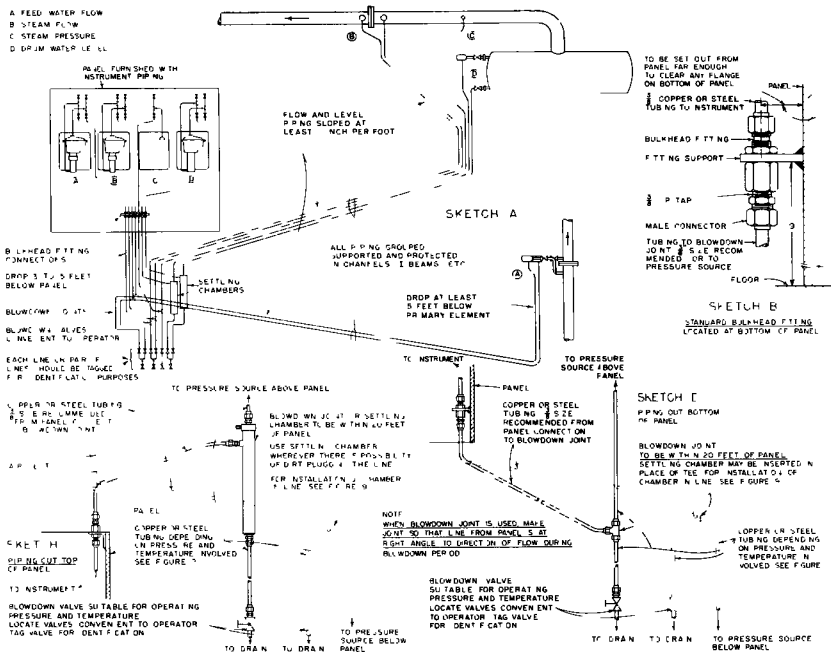
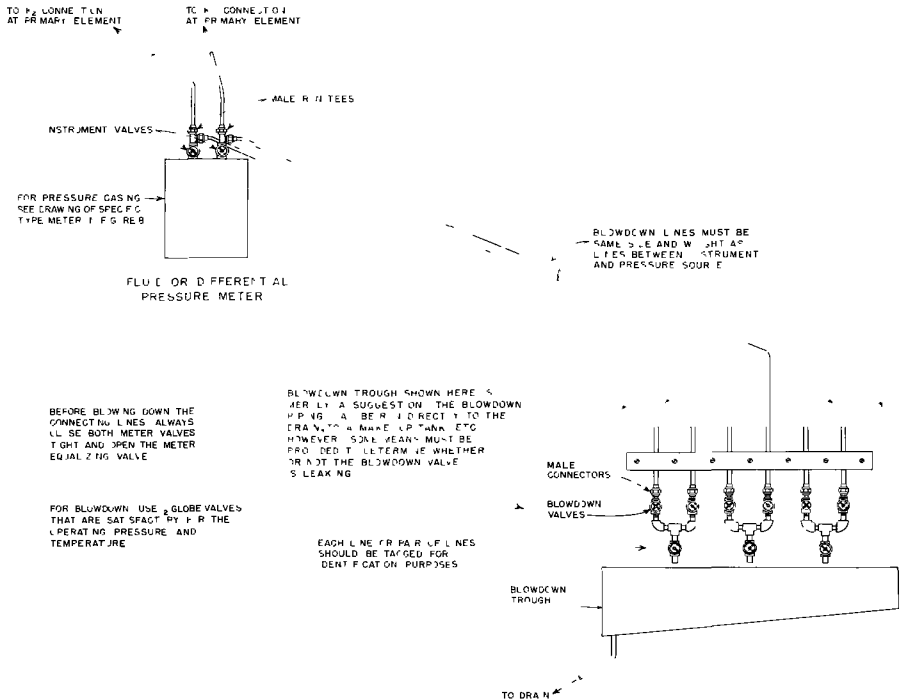

FIGURE 13 Typical Bailey Instrument Panel Arrangements
FIGURE 14 - Suggested Arrangement for Instrument Connection Line Blowdown Piping
A typical Bailey Instrument Panel piping installation is shown schematically in Figure 13 Sketch A. The panel piping uses bulkhead type fittings with 3/8 inch NPT outlets (see Figure 13, Sketch B) for connecting pipe outside the panel. Meter connections are made as shown in Sketch A.
Routine blow down of instrument piping should be made from some point outside the panel. Connect blowdown lines and joints within 20 feet of the panel as shown in Figure 14 and Sketches C and D of Figure 13. Use 3/8 inch O.D. tubing from blowdown joints to the panel. Make blowdown joint connections so that piping from instrument (or panel) is at a right angle to the direction of flow during blowdown pro-
1. Piping out top of panel (see Figure 13, Sketch C)
2 Piping out bottom of panel (see Figure 13, Sketch D)
Typical blowdown piping arrangements are shown in Figures 13 and 14